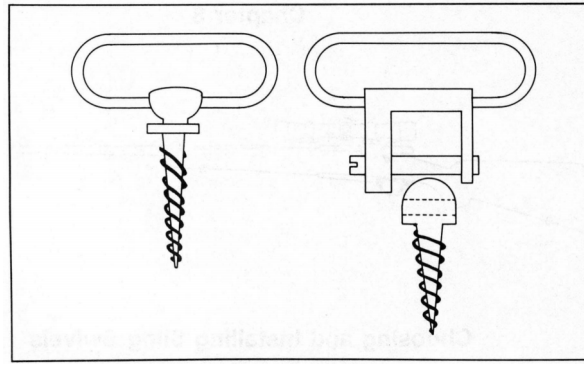

Fig. 8-1. Left: Standard or military sling swivel. Right: Quick-detachable swivel.
Figure 8-1 shows the difference between *standard* or *military* swivels and the *quick-detachable* (QD) types.